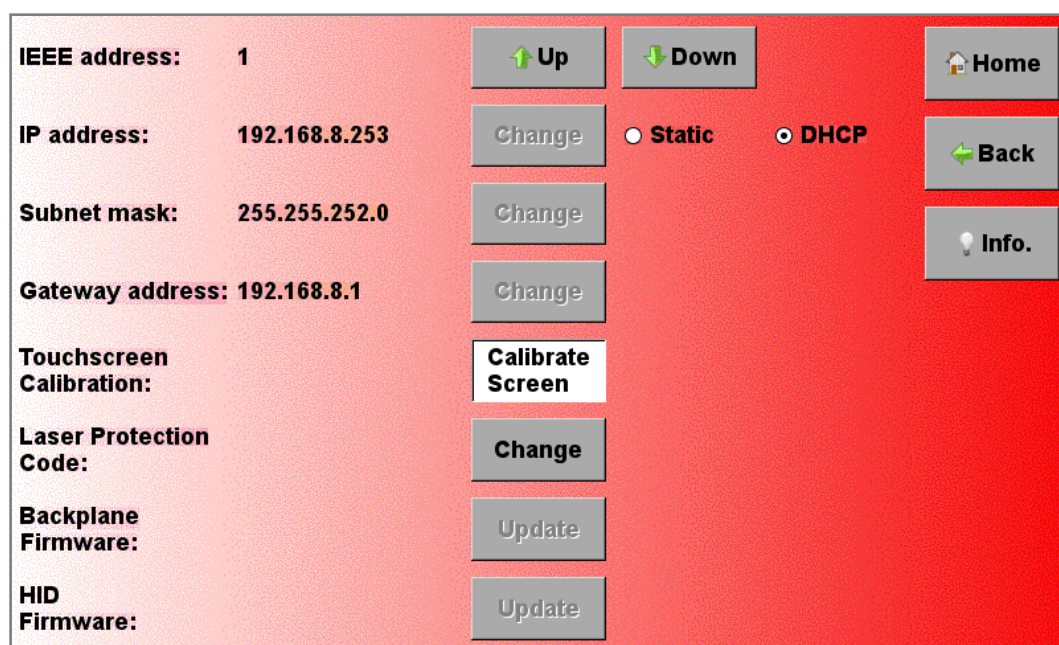

Figure 5: 'Calibrate Screen' button in the main configuration screen
2. Press 'Calibrate Screen' to enter the screen calibration window (see Figure 5).